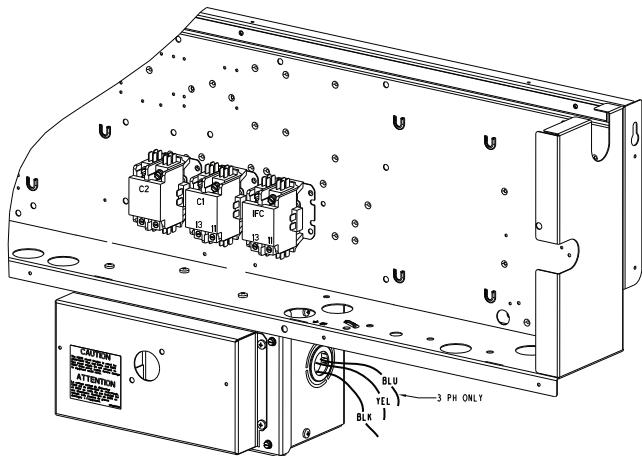

Fig. 25 — HACR Enclosure Location
2. Remove (3) hex screws on the HACR enclosure — (2) on the face of the cover and (1) on the left side cover. See Fig. 25.